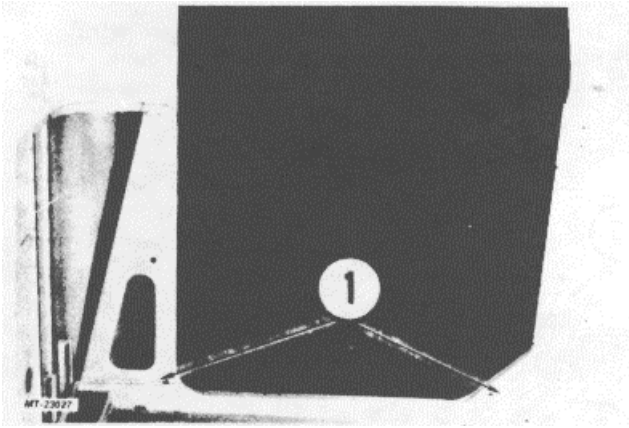

Fig. 38 Location of MIG Weld Seams
2. Separate inside panel of side panel assembly from sill side inner panel. Free inside panel of side panel assembly by cutting through MIG weld (Fig. 38) at bottom of panel. (On 80" wide cabs remove spot weld used at cowl side inner panel).